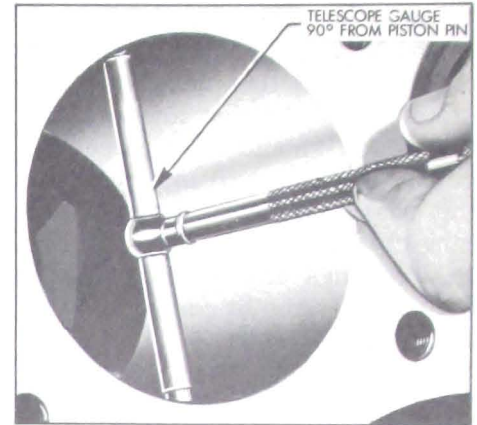

Figure 2-35—Using telescope Gauge in Cylinder Bore
Before the honing or reboring operation is started, measure all new pistons with micrometer contacting at points exactly 90 degrees to piston pin (Figure 2-35) then select the smallest piston for the first fitting. The slight variation usually found between pistons in a set may provide for correction in case the first piston is fitted too free.
1. Expand a telescope gauge to fit the cylinder bore at right angles to the piston pin and between 1-1/2" and 2" from the top of the bore. See Figure 2-35.